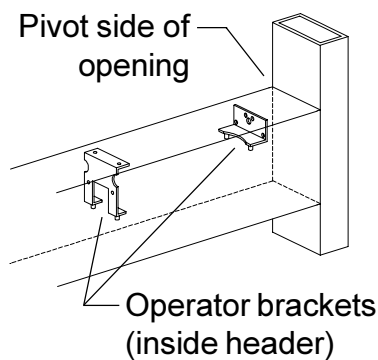
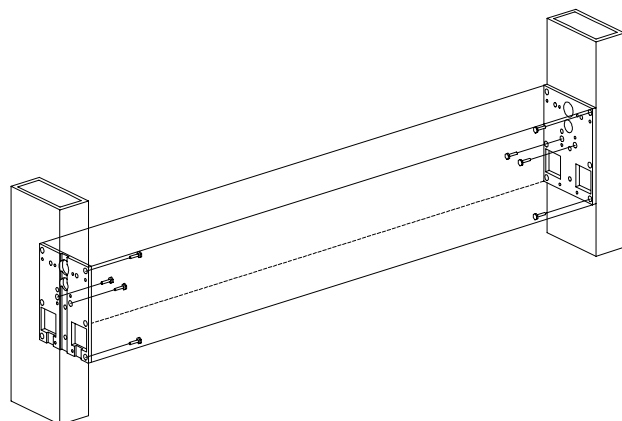

Figure 2-1
Figure 2-2
2.2. Align the header with the jamb tubes. For headers with a single operator, position the end of the header containing the operator brackets near the pivot side of the opening (Figure 2-1). Secure the header to the jamb tubes with four 1/4-20 hex head screws at each end (Figure 2-2).